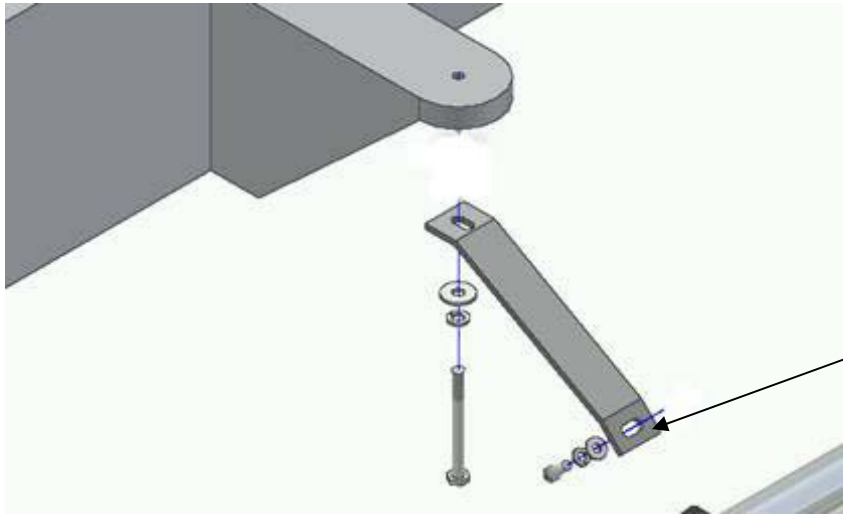
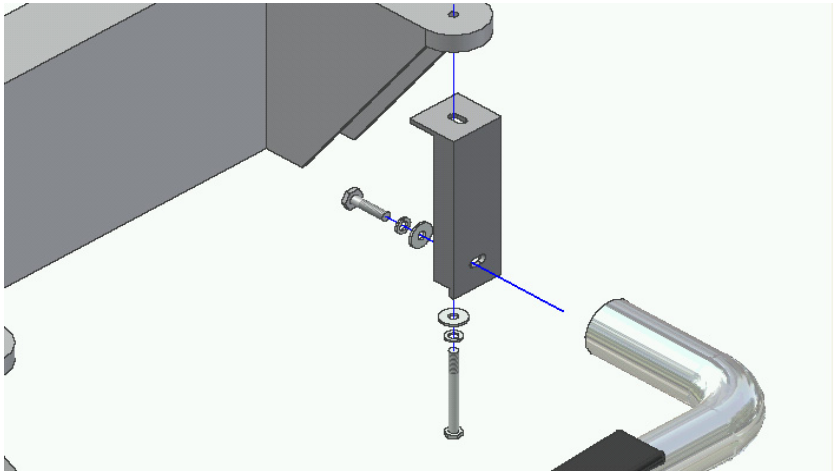

Figure 1.3 – Center Brace
Figure 1.4 – Rear Bracket
3. Attach and secure Rear Mount Bracket to underside of vehicles rear body mount as shown in Figure 1.4, in same manner as the front. Repeat for Center Brace,(see Figure 1.3).
4. Attach Side Tube to Front and Rear Brackets using (1) ½" x 2" bolt, (1) ½" lock washer and (1) ½" flat washer for each bracket, and hand tighten. Fasten Center Brace to Side Tube using (1) 5/16" x 1" bolt,(1)5/16" Flat washer and (2) 5/16" flat washer. Adjust Side Tube so that it is level and centered, and tighten all bolts to complete the driver-side assembly.